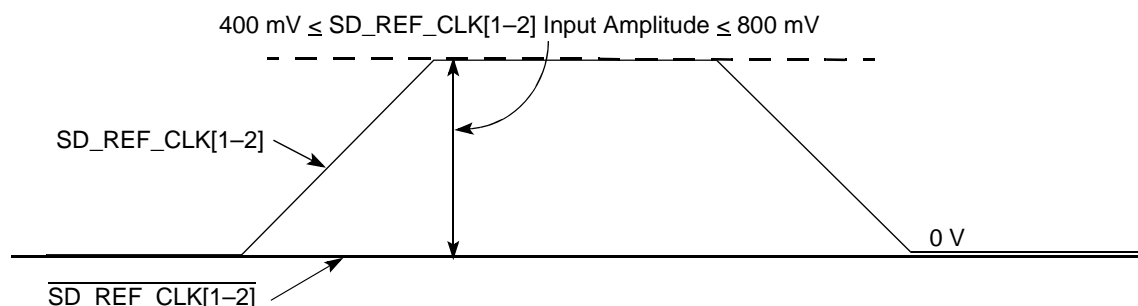

Figure 8. Single-Ended Reference Clock Input DC Requirements
- The  $SD\_REF\_CLK[1-2]$  input average voltage must be between 200 and 400 mV. Figure 8 shows the SerDes reference clock input requirement for single-ended signaling mode.